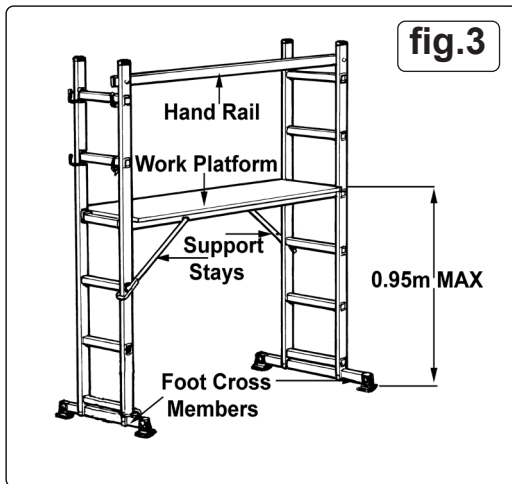

fig.3
- 4.2.4. Fit hand rail, fig.3.